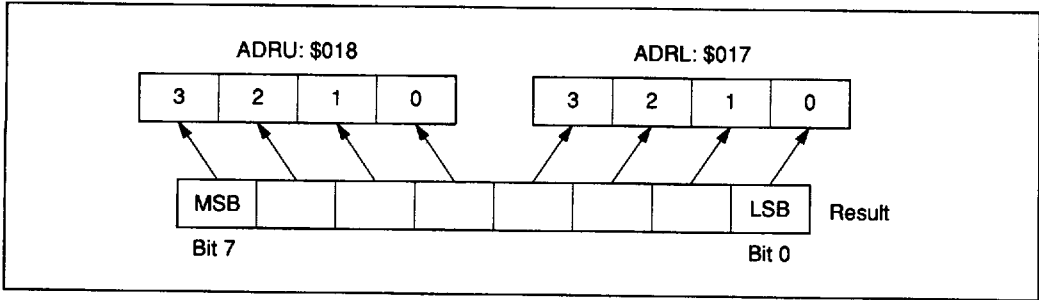

Figure 58 A/D Data Register
- A/D data registers (ADRL: \$017, ADRL: \$018) are read-only registers used to store the conversion result. (ADRL: lower 4 bits, ADRL: upper 4 bits.) These registers cannot be cleared by a reset input. Also, data in these registers are not guaranteed during the conversion period. After the conversion is completed, an 8-bit result is set to these registers and kept until the next conversion starts (figures 58, 59, and 60).